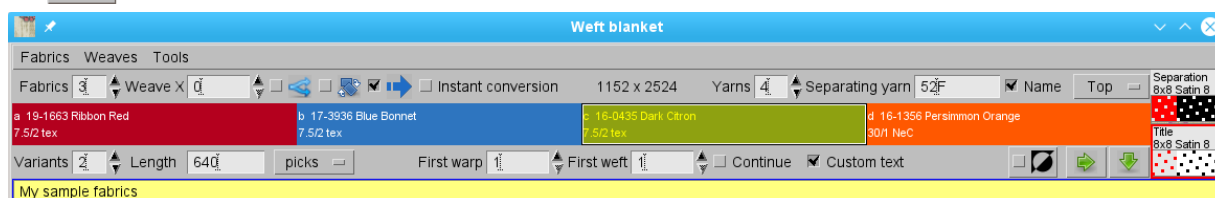

Figure 302: General settings and the fabric specific settings in the Weft blanket editor
- In the **Yarns** field, enter the number of yarns that you will use in the blanket. We use 4 different weft yarns in the blanket in Figure 302.